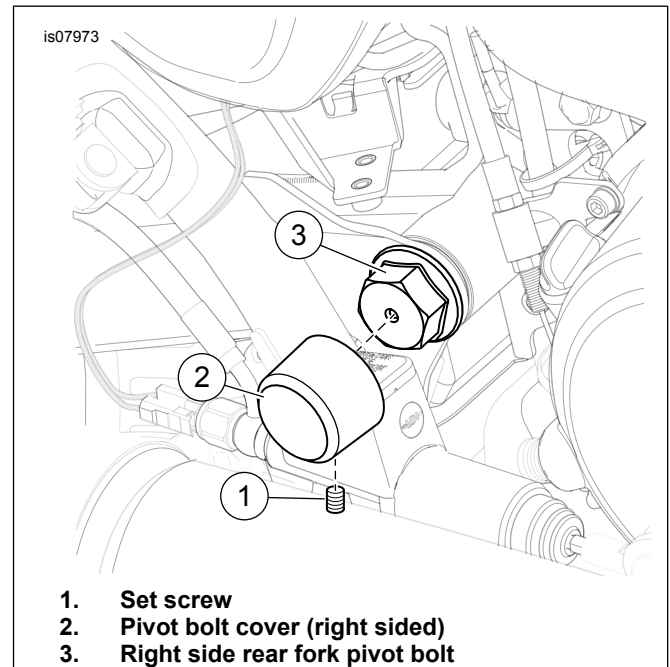

Figure 1. Right Side Pivot Bolt Cover Installation
1. See Figure 1. Start a set screw (1) from the kit into the right side pivot bolt cover (2) (shorter) about two or three turns.
2. Note the position of the bottom-most flat on the rear fork pivot bolt (3). Line up the pivot bolt cover over the bolt head so the set screw is centered on the hex flat. Tighten the set screw securely to the head of the rear fork pivot bolt.